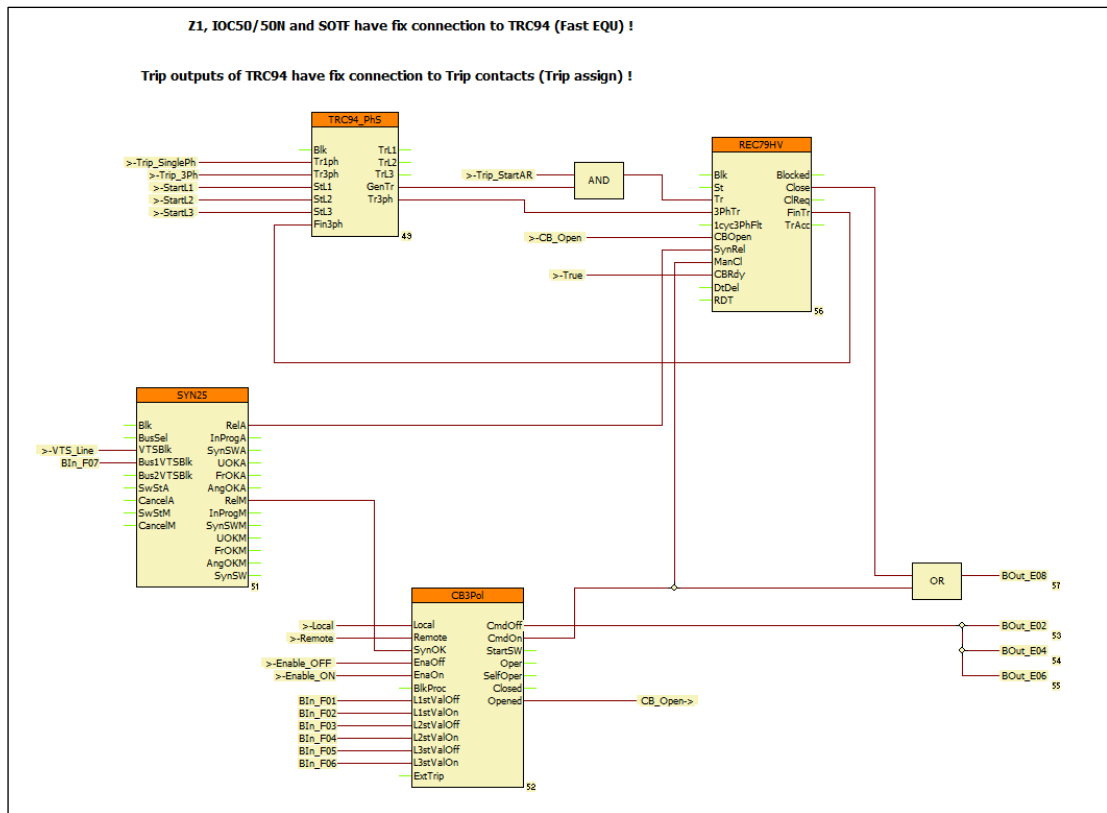

Figure 5-4 Example: closing the circuit breaker with synchro-check
Figure 5-4 shows an example for the application of “SYN25” synchro-check functionblock. In this Figure it is supposed that the fast protection functions operate according to the factory configuration and they control the TRIP contacts applying two steps in “Master” level. (The description of the fast operating protection functions are listed in the configuration description of the devices.)
According to *Figure 5-4*, the local command issued via LCD of the device or the remote command received from the remote SCADA system is processed by the „CB3pol” functionblock (Output „CmdOff”). This control is programmed in the factory to “BOut\_xx” variables. The user can perform any modification in the graphic programming.
In *Figure 5-4* the close command is connected directly to a dedicated output. (This is usually the fourth contact of the TRIP hardware module.)
*Figure 5-4* includes the application of the „REC79\_HV” automatic reclosing function. The start signal „Trip\_StartAR” can be programmed by the user. The automatic reclosing function is started only if the preceding trip command was performed by the circuit breaker, i.e. for example that the function is not disabled. The AND gate on this Figure performs this checking.
The evaluation of the status signals indicating the open state of the circuit breaker poles in OR gate is needed for the operation of the automatic reclosing function. According to the scheme of *Figure 5-4* the open state is indicated by at least one pole open state of the circuit breaker. (For simplicity, this Figure shows a realization without checking the FALSE signal of the closed states.)
*Figure 5-4* supposes that the CB ready signal is not connected to the device; accordingly the steady TRUE state signal is connected to the „CBRdy” input of the „REC79\_HV” automatic reclosing function. If the real signal is available, the signal must be connected similarly.
An extension to the example in *Figure 5-4* is the following: If there is no continuous synchron state because the frequency at one side of the circuit breaker is different to that of the other side, then the voltage vector of one side rotates continuously as compared to the other one. In this case a synchronous switching is attempted to restore the normal operation of the network.